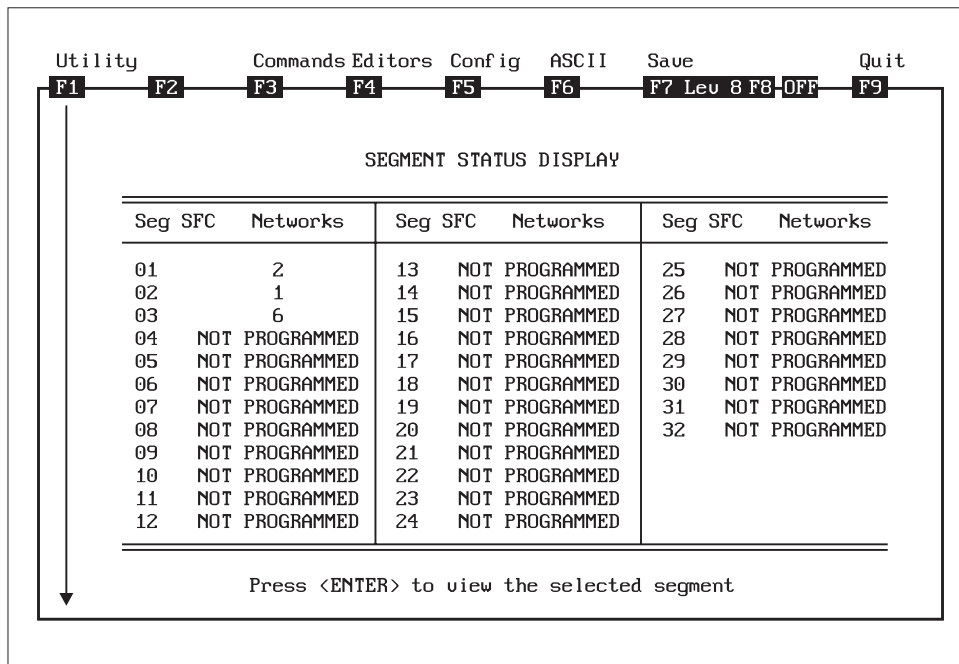

Figure 4-2
4. **Enter the segment which contains the needed network from the Segment Status Display screen. See Figure 4-2.**